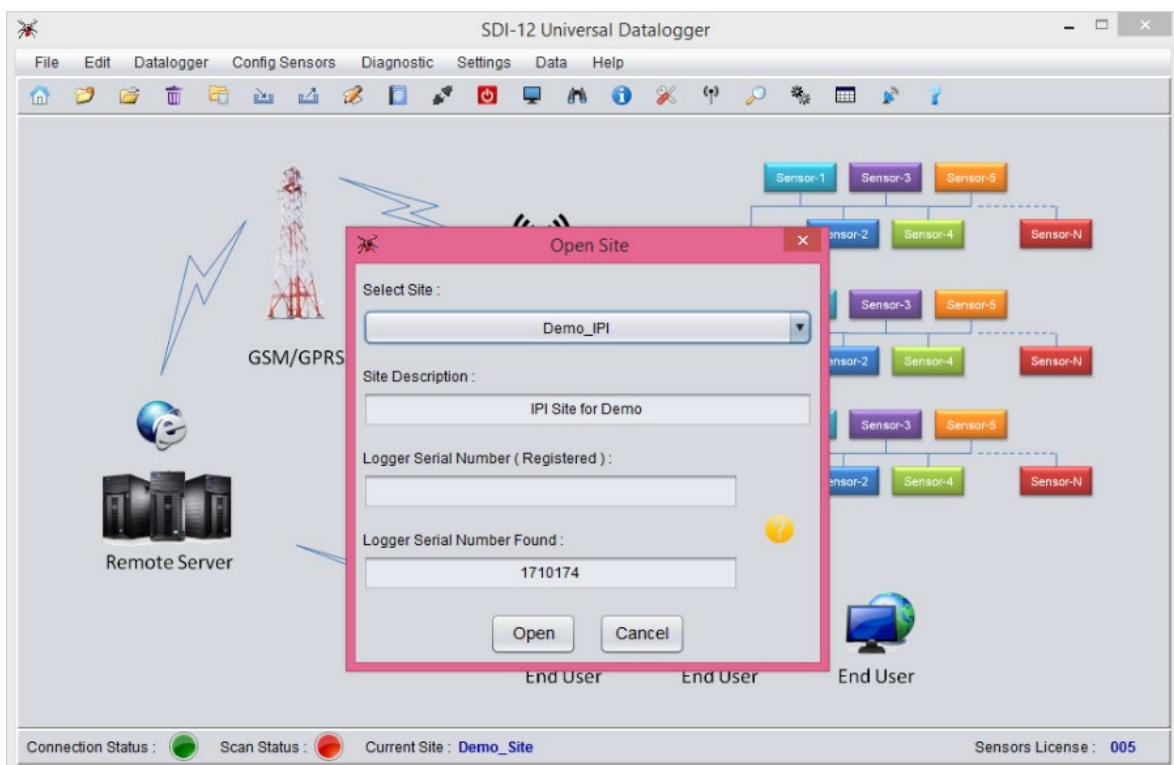
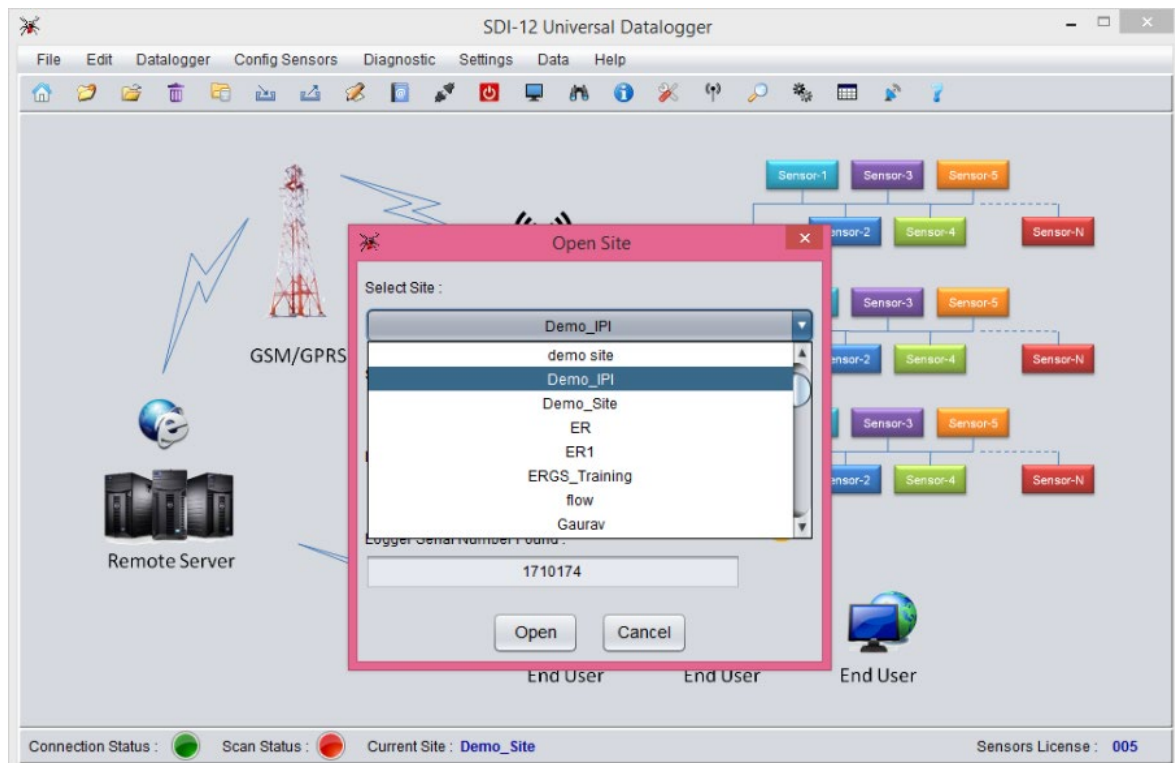

Figure 7-6 Open site window of EDSL-30UNI Configuration Manger Software
Figure 7-7 Open site window with dropdown list of sites of EDSD-30UNI Configuration Manager Software
- 6 Then the Open Site window will appear automatically. Choose the created site file from “Select Site” dropdown menu and click “Open” (figure 7-6 and figure 7-7)